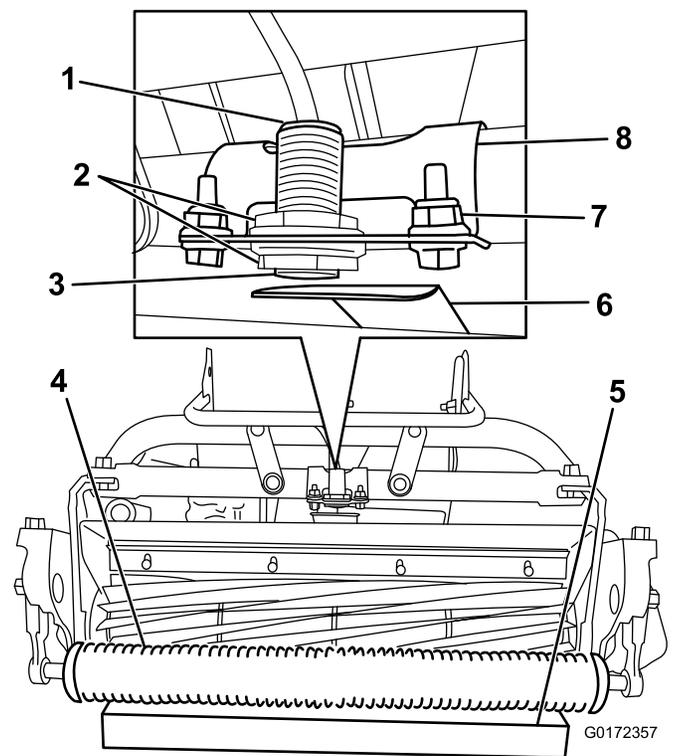

Figure 10
2. Loosen the jam nuts on the sensor and adjust the sensor so that 1 thread is visible past the lower jam nut (Figure 10).
4. Place a 3.8 cm (1-1/2 inches) block under the front cutting unit roller (Figure 10).
5. Loosen the fasteners that secure the sensor bracket to the frame (Figure 10).
8. Rotate the sensor bracket toward the target plate until the light on top of the sensor illuminates (Figure 10). If the light was already illuminated, rotate it away from the target plate until it goes out and then reverse direction until it illuminates again.